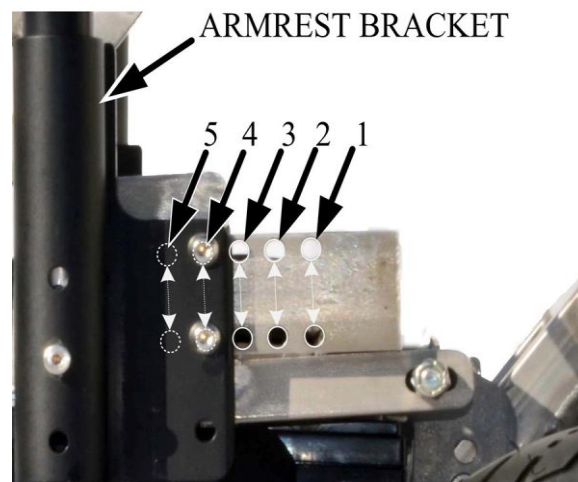

Figure 6.
1. Remove two nuts, washers, and screws on each arm rest bracket (Figure 6).